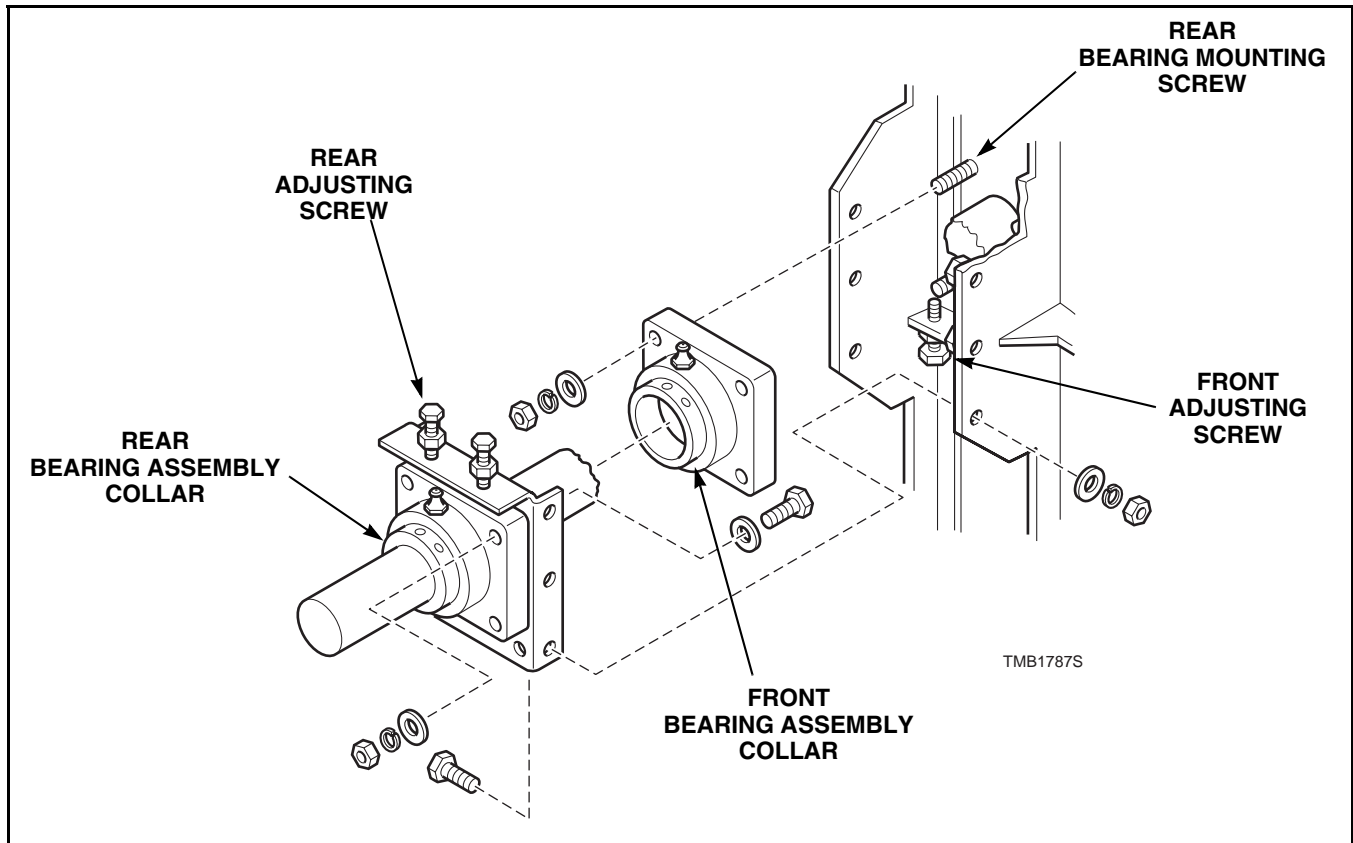

Figure 28
- c. Loosen rear bearing mounting screws. Refer to *Figure 28*
- d. Loosen the locknuts on rear adjustment screws. Refer to *Figure 28*.
- j. Loosen setscrews in the front bearing assembly collar and rear bearing assembly collar. Refer to *Figure 28*.